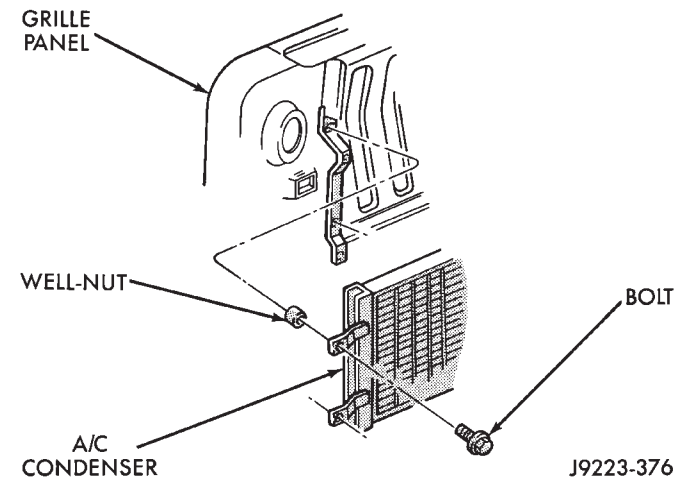

Fig. 44 Condenser Mounting Bolts—YJ Models
- (3) Remove the A/C condenser mounting bolts (Fig. 44).